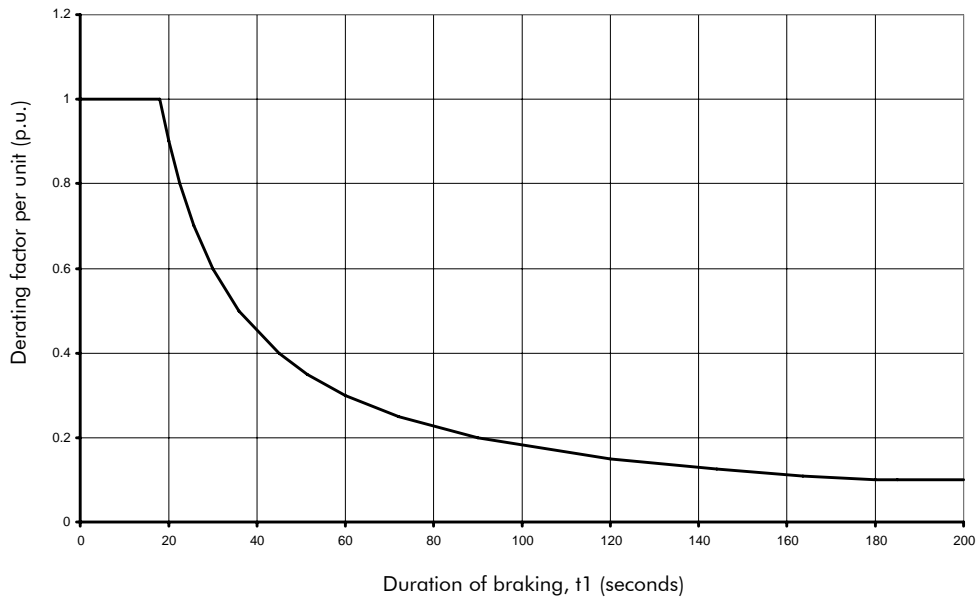

Figure 3-3 Derating factor
- The graph shown in Figure 3-3 can be used to find the derating factor for the peak power.